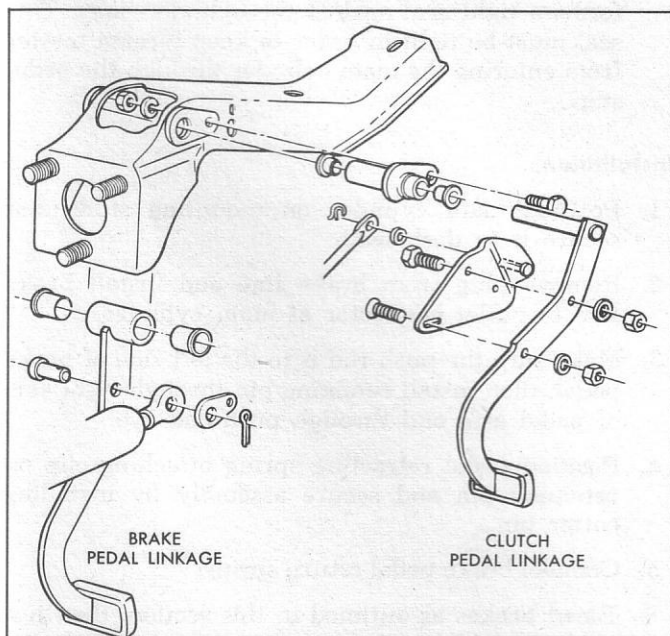

Fig. 3—Clutch and Brake Pedal Installation
2. Disconnect clutch push rod at clutch pedal (remove clip and washer from pedal bracket) (fig. 3).